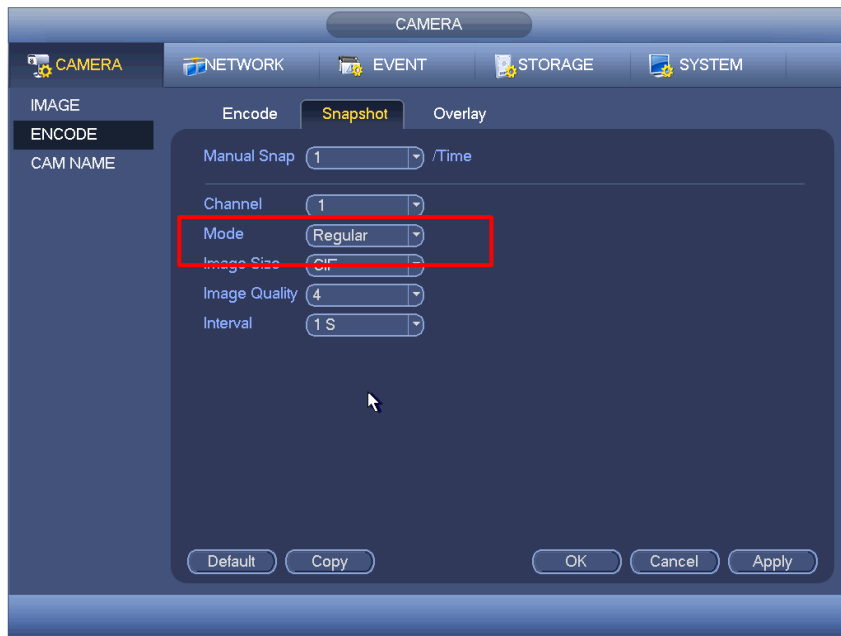

Figure 4-97
- In main menu, from Setting->Camera->Encode->Snapshot interface, here you can input snapshot mode as regular, size, quality and frequency. See Figure 4-97.